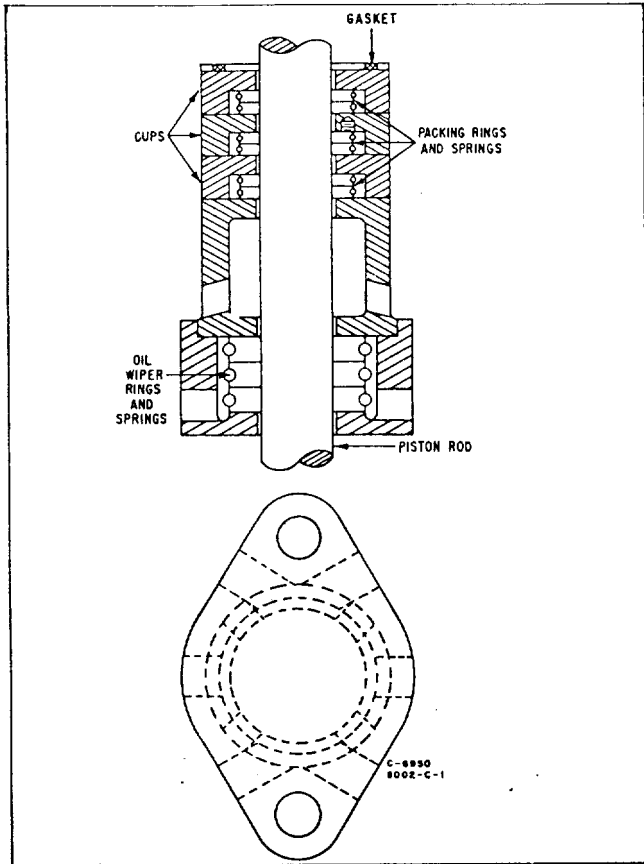
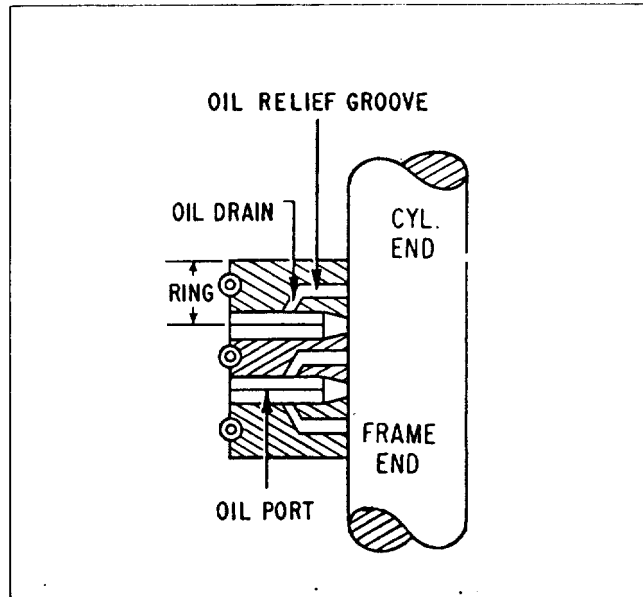

Figure 5-3. Piston Rod Packing and Oil Scraper Rings
Figure 5-5. Oil Scraper Ring Arrangement
Figure 5-4. One Pair of Tangential Cut Packing Rings are supplied for moderate pressures and temperatures where sufficient lubrication exists. Other ring materials are used for special conditions of pressure, temperature gas composition, or rod material. See Figure 5-3 for packing illustration.
2. Install the rings on the rod as shown in Figure 5-3. Before the case is closed, pour oil over the rings.
Refer to Figure 5-3 and Figure 5-5.
Renewal oil scraper rings are furnished in sets of three; each ring consisting of three segments. These segments are lettered or numbered and markings of adjacent segments MUST match. Before installing new rings, carefully clean the gland and assemble the rings on the rod as illustrated by Figure 5-3 and 5. The total side clearance of the scraper rings should not be more than .005" (.127 mm). Check this clearance with a straight edge before securing the gland in place. If clearance is insufficient for rings to float on the rod, they will not function properly. Too much clearance will cause the rings to act as a pump instead of wiping oil from the rod.